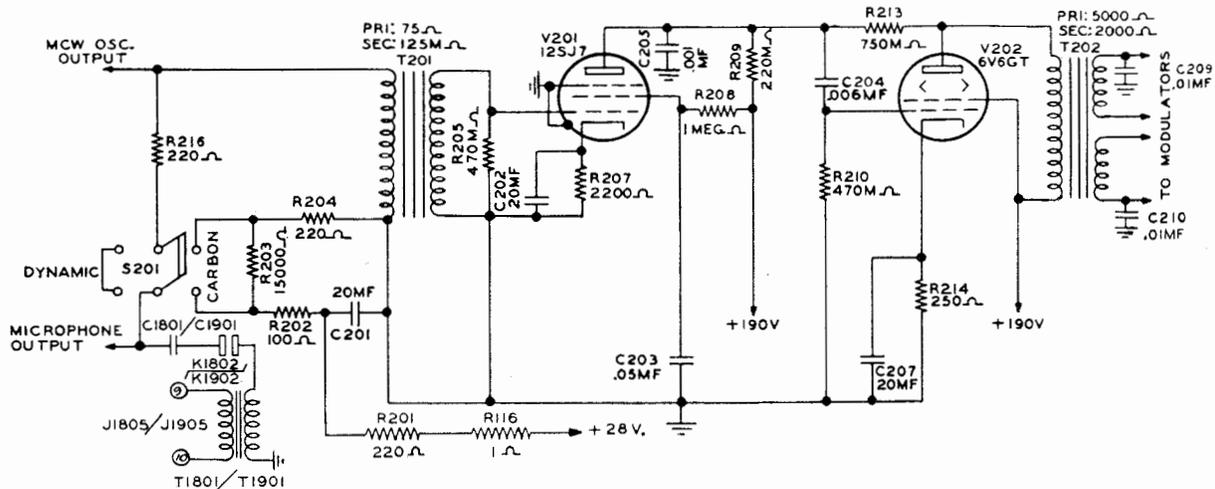

Fig. 16 Speech Amplifier Circuits (Dwg. No. 500 1453 00A)
2.7.2.1. Refer to Figure 16. Either of two types of microphones may be used with this equipment. The input to the speech amplifier has been designed so that by operating a switch, proper connections are made to the MICROPHONE jack, J102, (Fig. 28) to match the output of either a carbon or dynamic type of microphone. The microphone circuit selector switch, S201, is located beneath the tuning chart on the front panel of the transmitter. If S201 is placed in the CARBON position, limiting resistors R201 and R202 are connected between the positive terminal of the 28 v d-c power source and the MICROPHONE jack, J102, to provide the